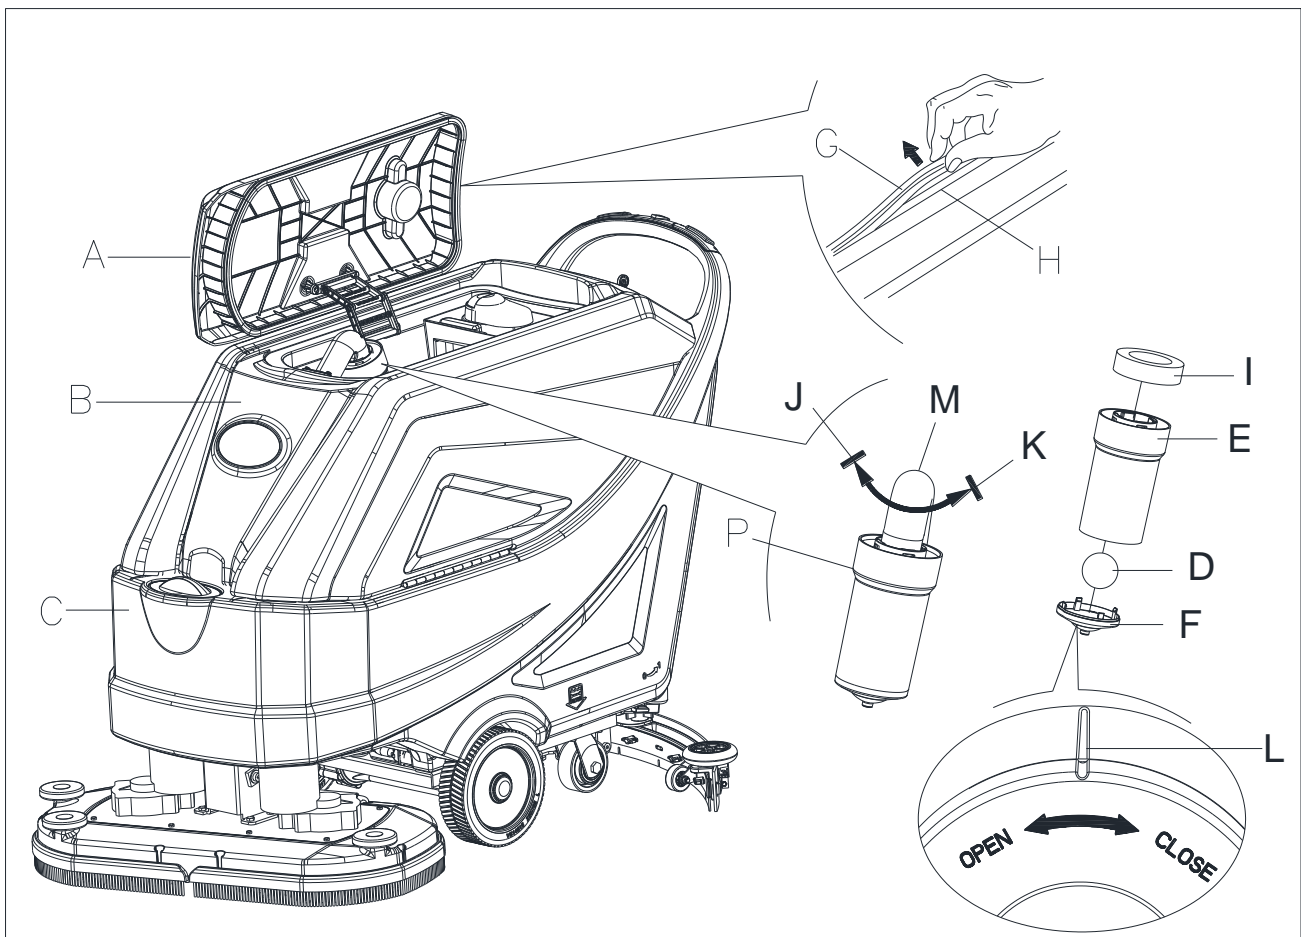

Figure 29
3. Open the recovery tank lid (A, Figure 29) to a 90degree position, and then remove the ball float filter (P) from the tank.
4. Clean the recovery tank lid (A), recovery tank (B), and the float ball filter support frame (E). Empty the recovery tank with the drain hose.
5. If necessary, follow the symbols "OPEN" and "CLOSE" as shown in (Figure 29) to open the bottom cover (F) of float ball filter and then clean the float ball (D), filter support frame (E) and filter sponge (I). After cleaning, fix the float ball (D) into the filter support frame (E) and then align the mark groove (L) of the bottom cap (F) of the float ball filter with the mark groove (L) of the float filter support frame (E). Screw the bottom cap of the float ball filter tight, and fix the filter sponge (I) onto the float filter support frame (E). Finally, connect it to the vacuum standpipe (M).
7. Check whether the contact surface of sealing strip (G) is good condition and sealing is sufficient. If necessary, take the sealing strip out of the groove (H) and replace it. Assembly the new sealing strip as shown in (Figure 29), the joint should be back in the middle area.
8. Close the recovery tank lid (A).